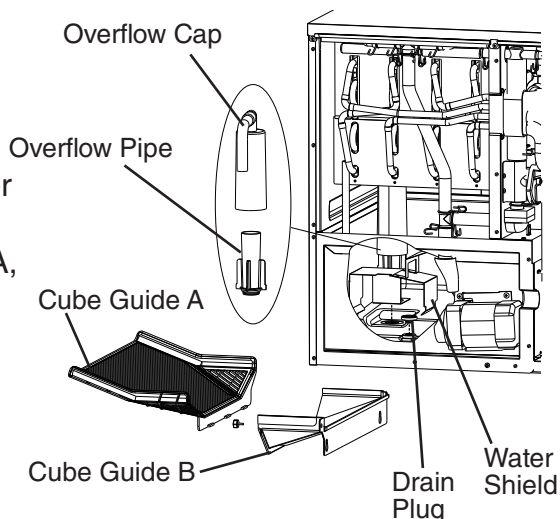

Fig. 14
- 4) Remove the front insulation panel, then remove cube guide B and cube guide A. See Fig. 14. Remove the overflow cap, overflow pipe, water shield, and drain plug. After the water tank has drained, replace the drain plug, water shield, overflow pipe, overflow cap, cube guide A, cube guide B, and front insulation panel.
- 3) Remove the insulation panel. Remove cube guide B, then remove cube guide A. See Fig. 14. Remove the overflow cap, overflow pipe, and water shield.